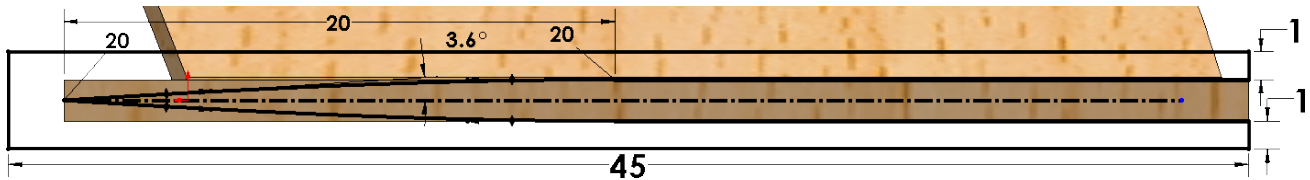

Fig. 43
Step 20. Click **Smart Dimension**  (S) on the Sketch toolbar.
Step 21. Add the Dimensions as shown in **Fig. 43**.